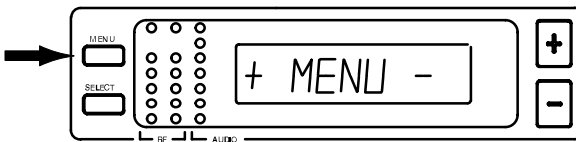

FIGURE 25
1. Press the MENU button. The "+ MENU –" display appears, as shown in Figure 25.